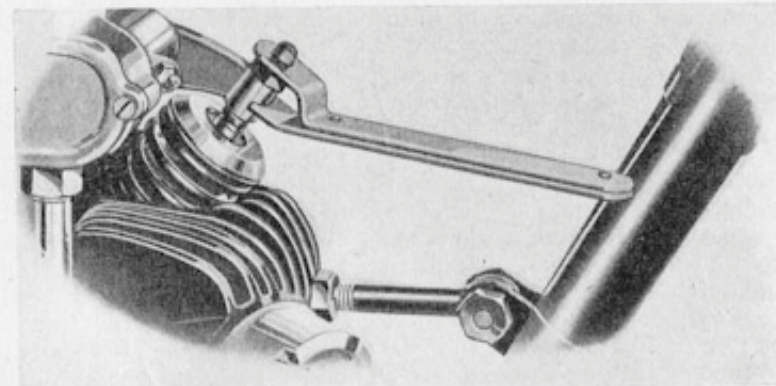

FIG. 17. THE A.J.S. PUSH-ROD EXTRACTOR (1932-3)
**Push-rod Removal.** To remove the push-rods on 1932-3 O.H.V. engines the special extractor tool illustrated in Fig. 17 must be used after shortening the two covers by undoing the lock-nuts and telescoping them. The end of the tool is arranged to fit over the rocker adjusting screw (Fig. 17) in such a way that by pressing the tool handle down it compresses the valve spring. Press down on this tool and seize the base of the push-rod tube with the other hand. The push-rods may then be withdrawn by lifting their hollow cups off the tappets complete with covers. The rocker-box should now be removed.